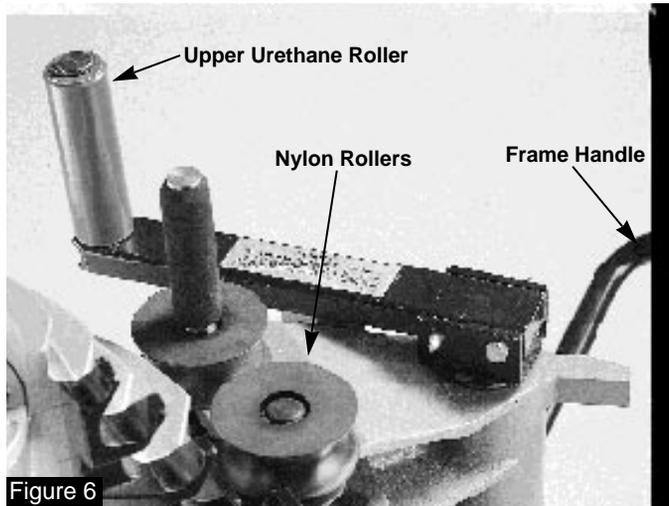

Figure 6
2. Move the roller housing against the frame stop (figure 10). The upper urethane roller must be on the outside (toward frame handle) of the roller housing (figure 6). If it's not, pull the ring pin. Lift the roller support arm, swing it over the roller housing, lower the handle into the bracket and insert the ring pin.